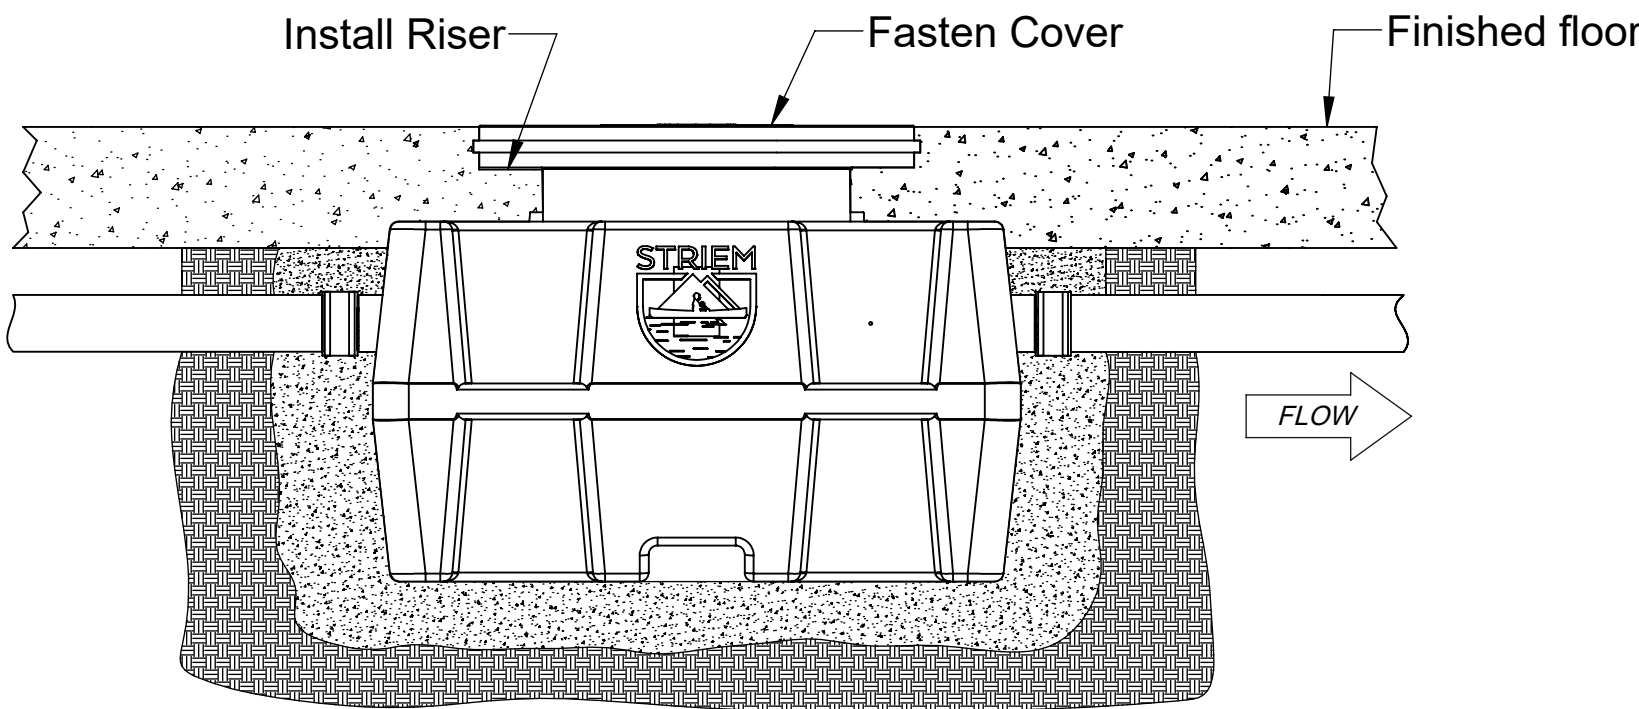

Figure 4
- Verify that the bottom of the lowest riser is protruding at least 2-1/2" but no more than 4" into the main unit from the top of the gasket. Your mark from step 7 should be at the top edge of the gasket on the main unit. If measurements were made correctly, this should happen automatically. See figure 4.
- If jobsite riser height conditions change after the above steps have been completed, there may still be room for vertical adjustment in both directions. As long as minimum and maximum overlaps are maintained (see Figure 4), the adapter/riser(s) can be adjusted/cut as many times as necessary. Please follow these steps from the beginning to ensure the proper overlaps are maintained.
- Place the cut riser back into the ring on the unit until it stops. Fasten the cover from unit into riser with the same 4 bolts from the unit. The unit is ready to be water tested and backfilled. Install finished floor. See Figure 4.